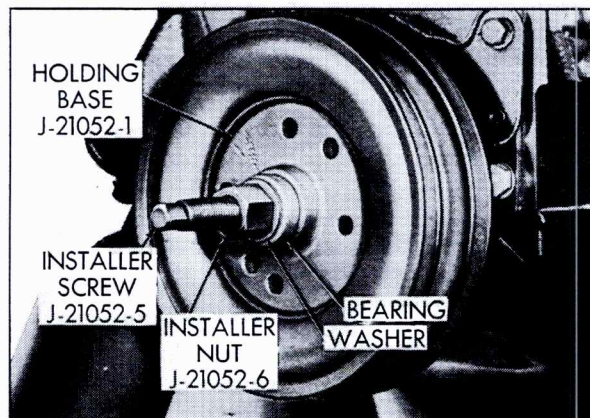

Fig. 6-122 Installing Balancer
3. Place Holding Base, J-21052-1, against front face of pulley and thread Installer Screw, J-21052-5, into end of crankshaft. Position thrust bearing with inner race forward, washer next, and Installer Nut, J-21052-6, last, Fig. 6-122.